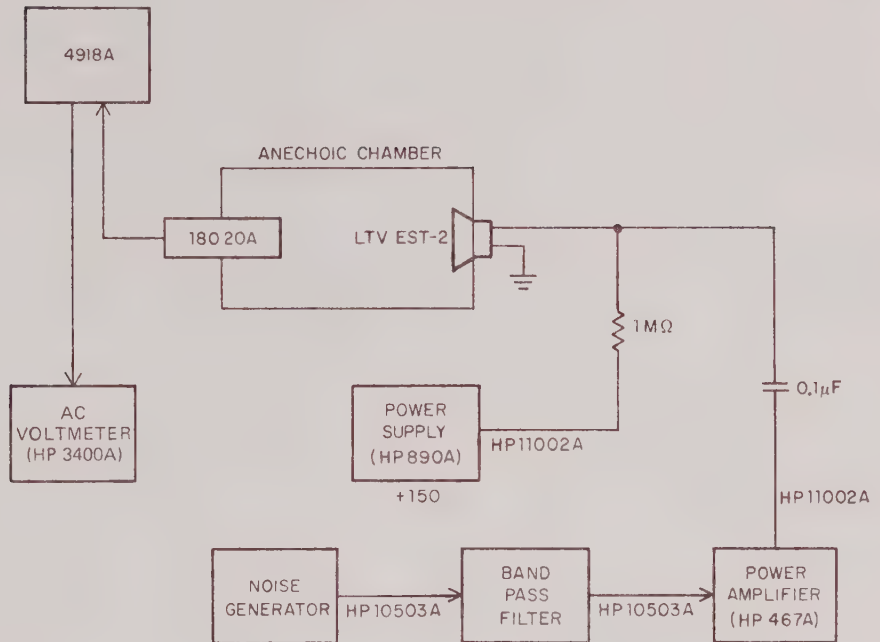

Figure 5-4. Calibration and Adjustment, Test Setup
- a. Connect test setup shown in figure 5-4.